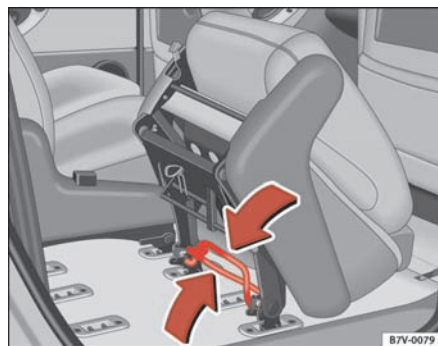

Fig. 93 Bar for removing and installing the individual seat
- Push the two bars ⇒ fig. 93 under the seat together in the direction of the arrow and lift the seat out of the floor anchorings.